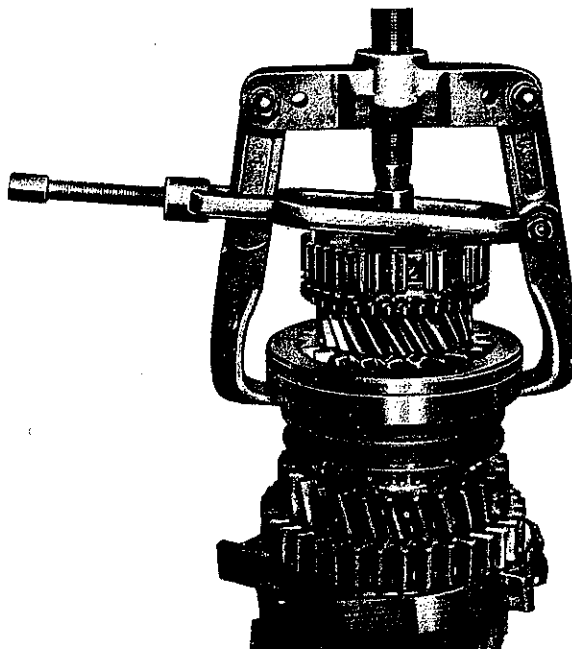

Fig. 15
1. Clamp main shaft between soft jaws into vise (output end down). Remove circlip (403). Pull sliding sleeve (408) from synchronizer (407). Make sure that none of the three compression springs (406), the ball pin (405) and thrust pieces (404) are lost.
2. Position puller .8. against 3rd gear wheel (413) (Fig. 15). Now, a conventional puller can be used to pull off the 3rd, 4th or 5th gear wheel, as well as the synchronizer. Remove needle cage (414).